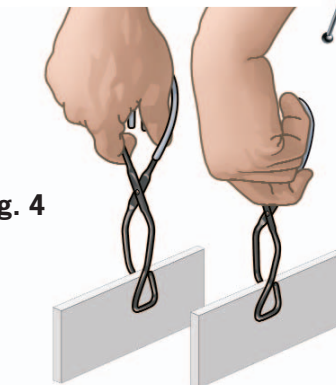

Fig. 4
7. Hold the paraffin blocks with tongs as shown in Fig. 4. Have your welding partner stand ready with the C-clamps. Simultaneously, dip both blocks into the hot water so that the edges to be joined are below the surface but not touching the bottom. Wait 30 seconds.